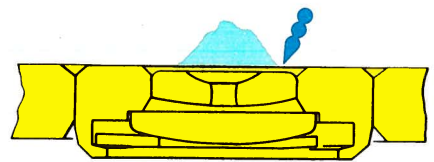

Fig. 5
- Third wheel and pinion : Upper pivot—inside the DIAFIX before assembling. Fig. 5